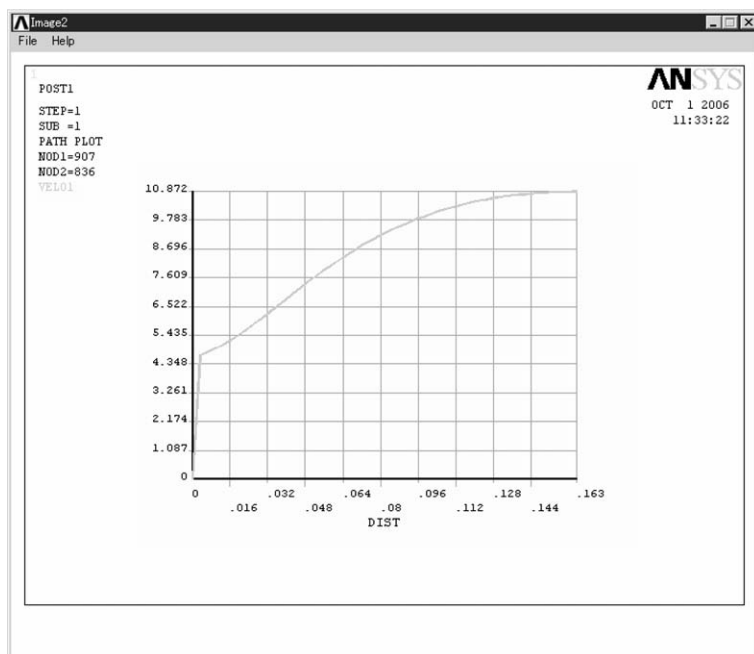

Figure 5.39 **ANSYS Graphics** window.
- (1) Select [A] **VEL01** in **Lab1-6** box and click **OK** button. Then the calculated result for the defined path appears on **ANSYS Graphics** window as shown in Figure 5.39.